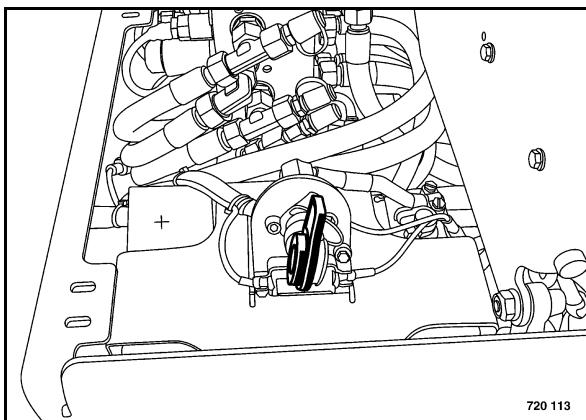

Fig. 35
- Switch on the main battery switch (Fig. 35).